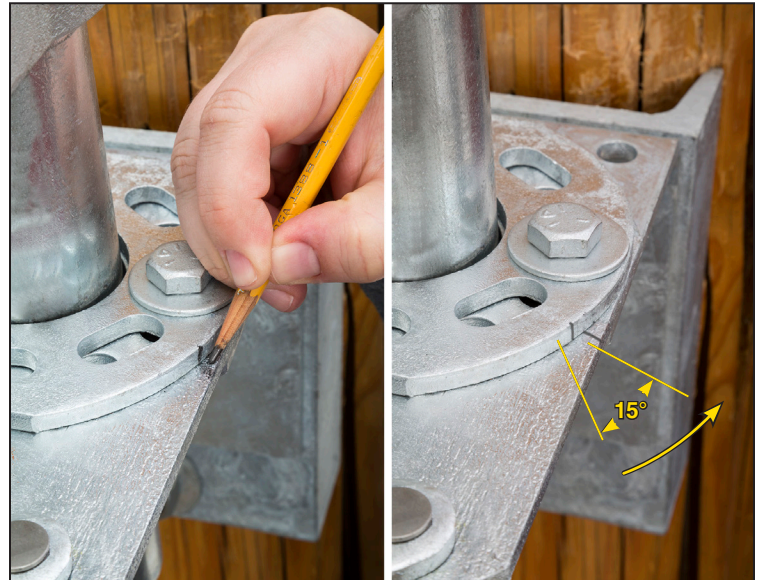

Figure 34. Mark the stop plate, and then loosen the hardware and rotate the closed stop-plate backward approximately 15 degrees.
Mark the position of the closed stop plate. See Figure 34 (left).
- (c) Lift the handle out of the way and rotate the closed stop plate an additional 15 degrees counterclockwise from the mark. See Figure 34 (right). Make sure the open stop plate lines up with the mark made previously in Step 28. Tighten the stop plate hardware to 40 ft-lbs.